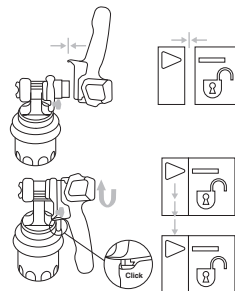

Fig4
- Connect the front part with the rear part of the gun. (Fig.4)